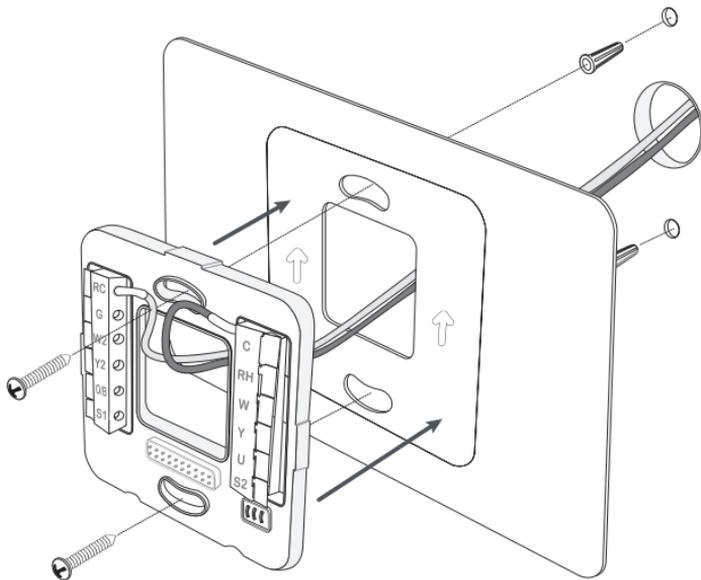

Figure 2 : Wiring connection and back plate attachment (optional trim plate shown).
If you are replacing an existing thermostat, you have the option of using the provided Wisier Air trim plate. If the hole left by the removal of the existing unit is larger than the back plate of the Wisier Air thermostat, use the optional trim plate. Run the wires and anchor the mounting screws through it while attaching the back plate to the wall (Fig. 2). Make sure to attach the trim plate with the central hole oriented upwards.
10. Attach the Wiser Air back plate to the wall using the provided screws in the mounting holes in the top and bottom (Fig. 2).